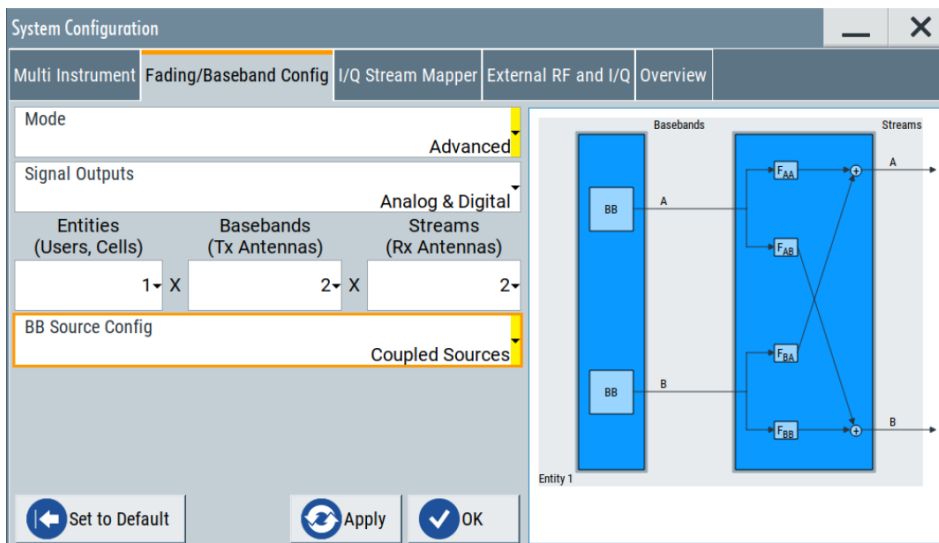

Fig. 7-2 Fading/Baseband config under system configuration
- b) In tab "**Fading/Baseband Config**", see Fig. 7-2